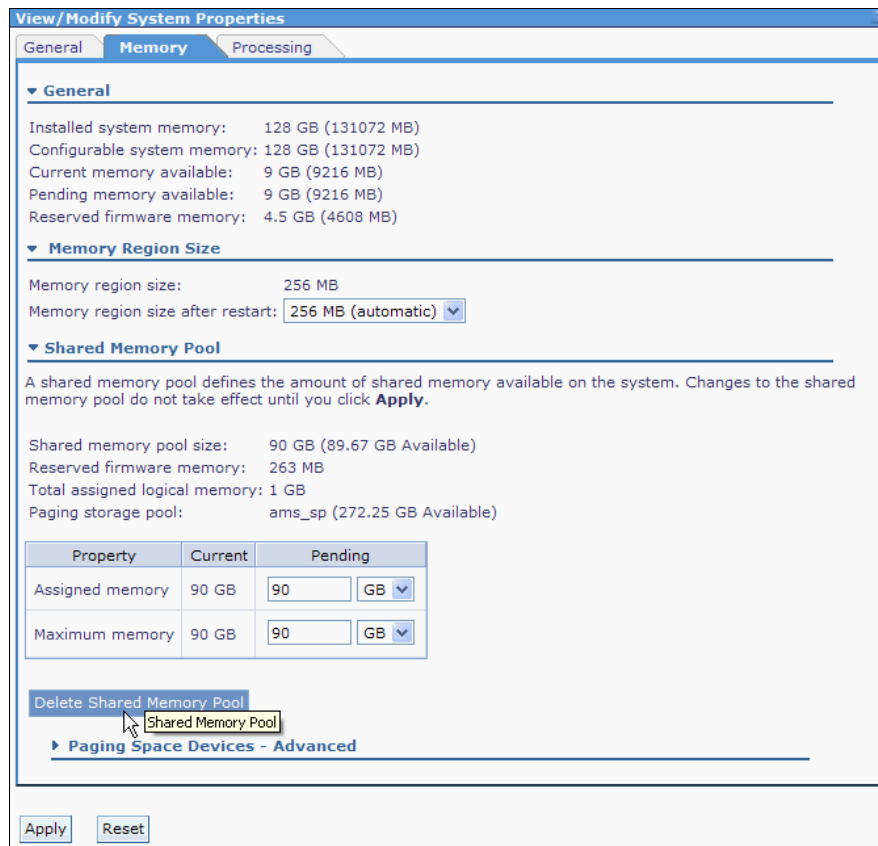

Figure 4-27 Shared memory pool deletion
2. Click **Delete Shared Memory Pool** to remove the AMS pool, as shown in Figure 4-27.